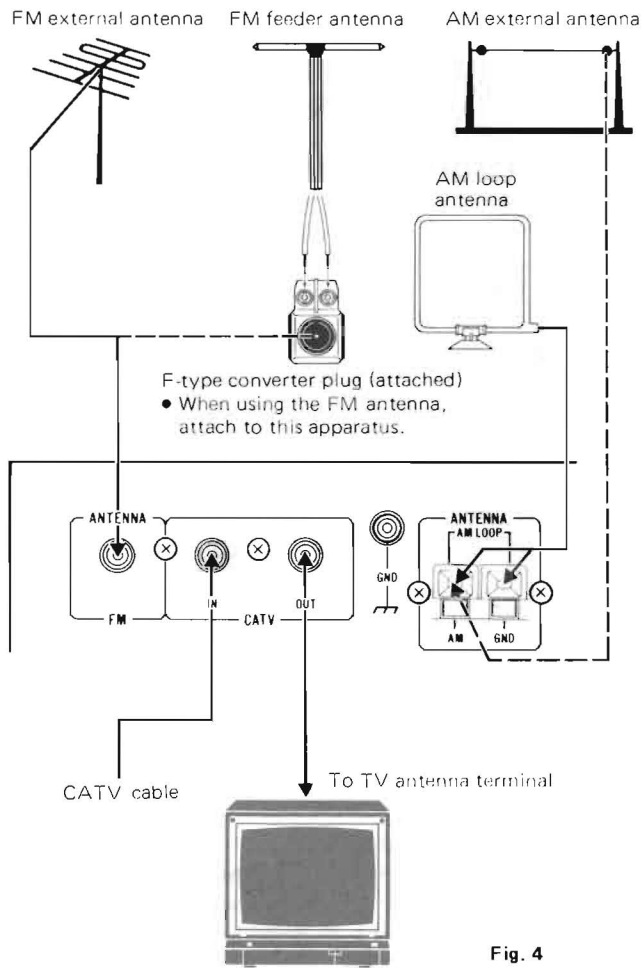

Fig. 4
- AM external antenna (Fig. 4 – 7)
For USA & CANADA (Fig. 4, 5)
- Connect an external antenna to the FM terminal, the CATV line to the CATV IN terminal, and a television to the CATV OUT terminal. (Fig. 4)